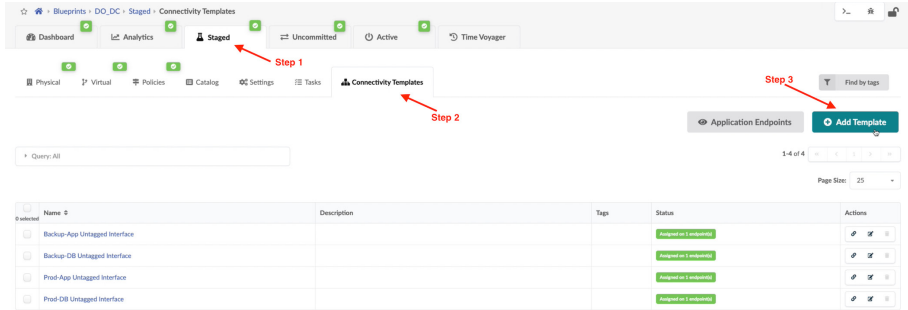

Figure 6.13 Adding a New Connectivity Template for BGP Dynamic Routing
Step 1: Go to the Staged section in main blueprint view. (See Figure 6.13.)